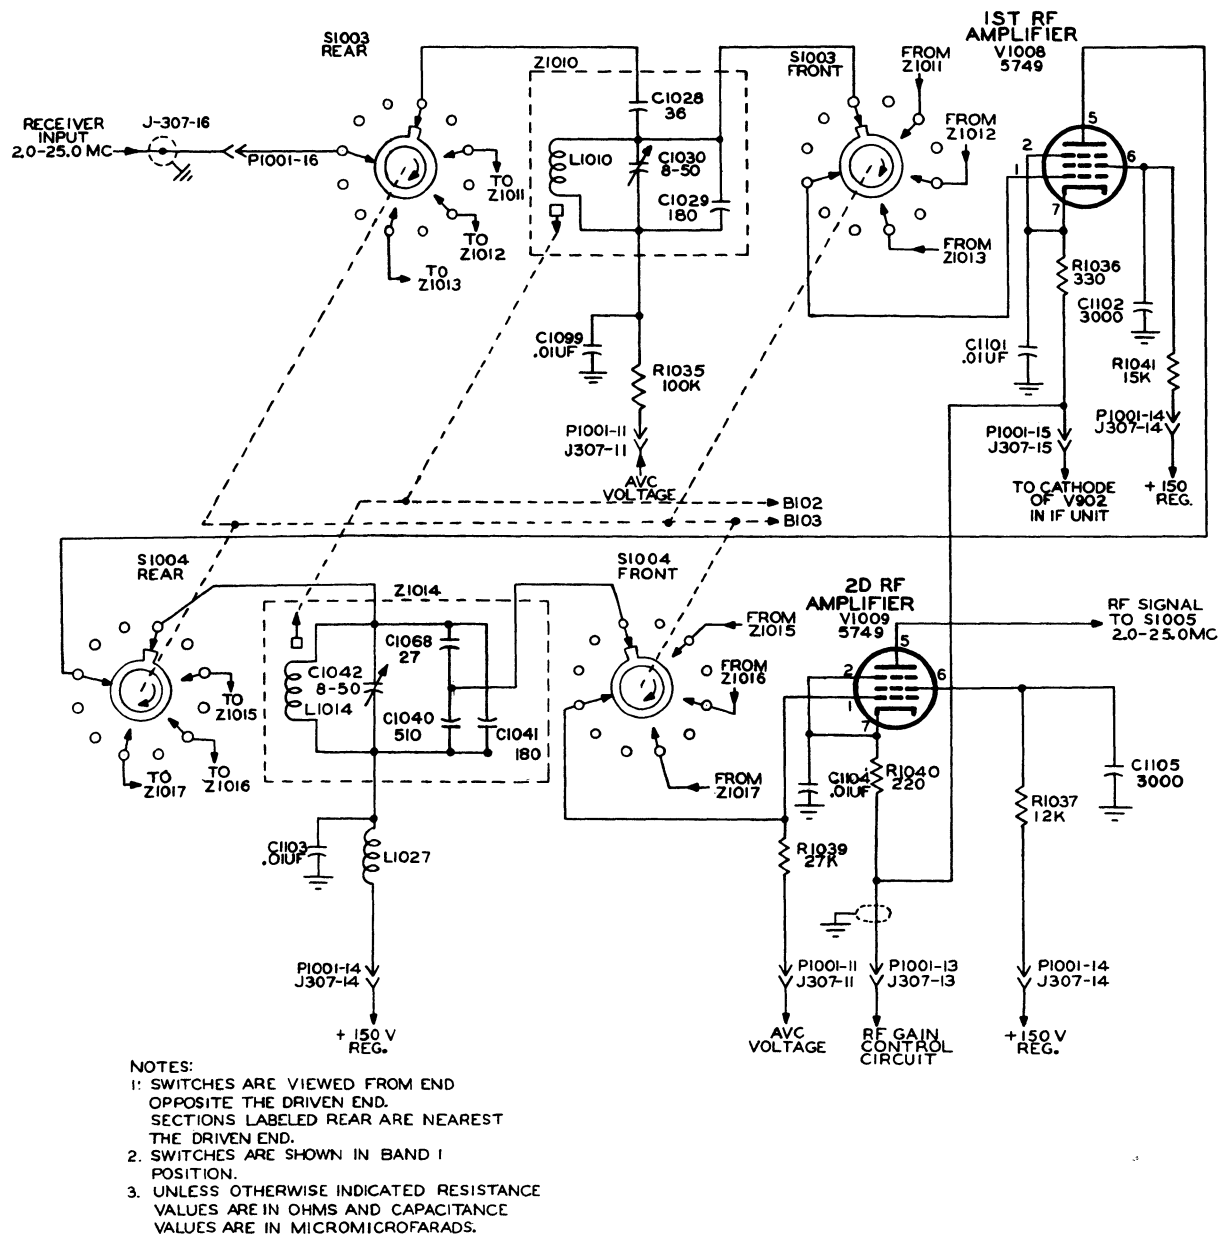

Figure 4-16. Receive Position, R-F Amplifier, Simplified Schematic Diagram
4.9.3.2.2 R-F AMPLIFIERS. Refer to figure 4-16. Input from the antenna is applied through contacts of switch S1003 to impedance Z1010. Voltage developed across this impedance is directly coupled to the grid of the first r-f amplifier, V1008, through contacts of switch S1003. The cathode returns of the two r-f stages are tied together to the r-f gain control circuit. Refer to paragraph 4.9.11.4. The screen of V1008 is connected to a regulated 150 volts through resistor R1041 in order to obtain better operation of the avc circuit. The plate circuit consists of impedance